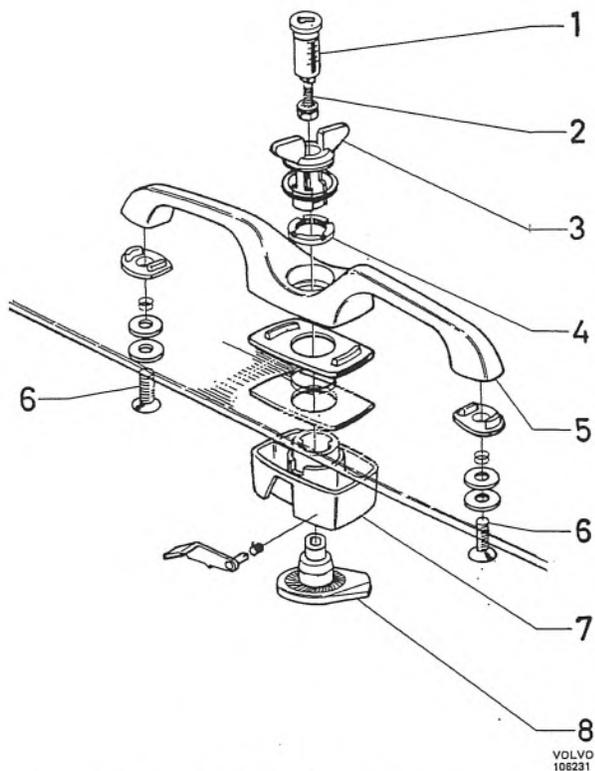

Fig. 8-32. Tailgate handle with lock
1. Screw out the screws (6, Fig. 8-32) and the center bolt (2).
2. Push up the lock cylinder (1) with the bolt (2). Remove the lock cylinder and the center bolt.
3. Turn the lock tab (8) a quarter turn and remove it (8) and the lock handle (3).
4. Remove the nut (4) entirely with the help of angled snap pliers and lift off the handle (5) and the rear piece (7).